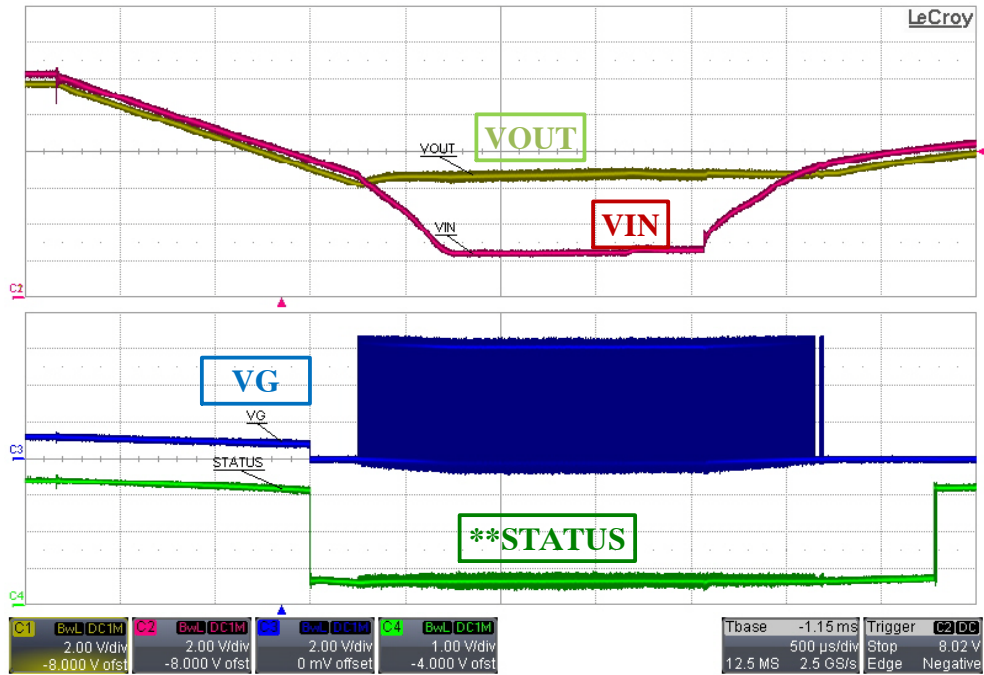

Figure 3. NCV887601 Evaluation Board Waveforms
3. Monitor VOUT. Disconnect supply DC1. VOUT should have a response similar to that of Figure 3.